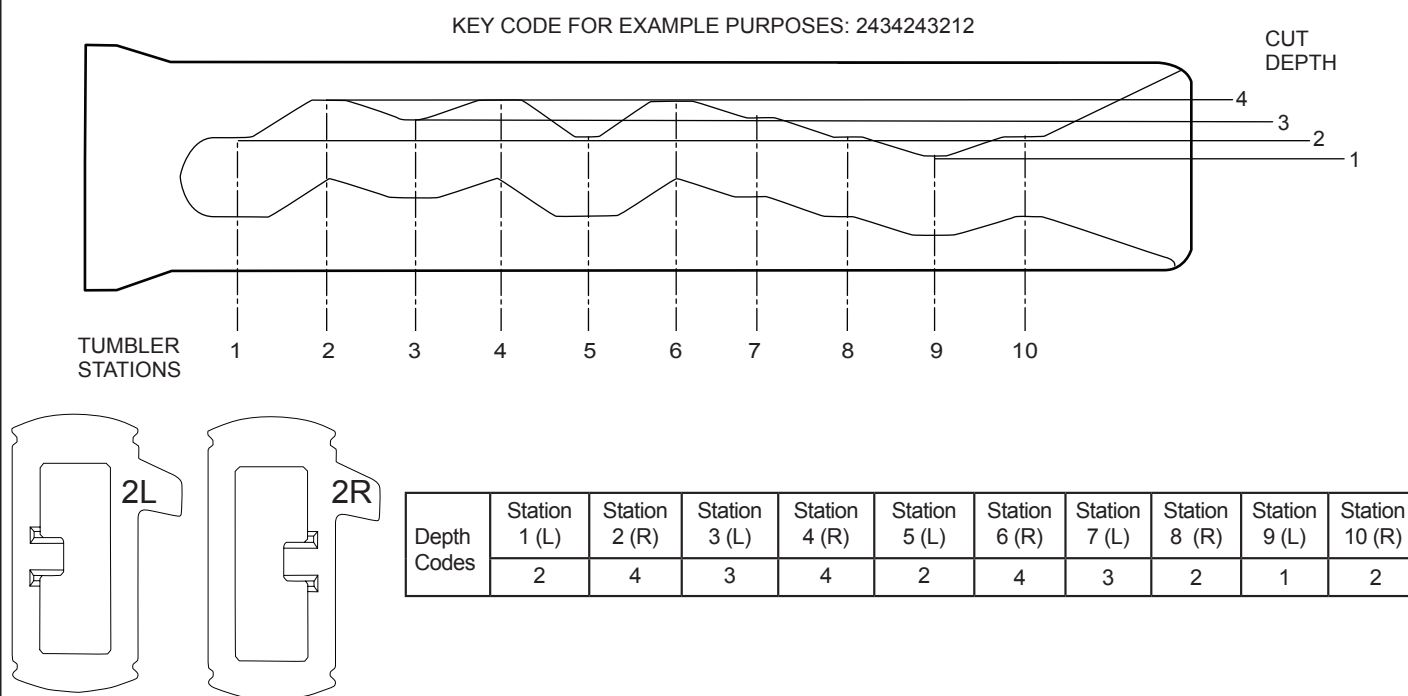

FIGURE 1
- Using the customer's key, measure the key cut depth at each key station (refer to Figure 1) and write down the corresponding key cut depths in terms of the DEPTH CODE, not the actual measurements of the depths, in this chart.
- Select the required tumblers (B1-B8) according to the key cut depths. For example, if the key cut depths codes are 2434243212, use B6 for station 1, B4 for station 2, B7 for station 3, B4 for station 4, B6 for station 5, B4 for station 6, B7 for station 7, etc. (refer to Figure 1). Note that there are Right (B1-B4) and Left (B5-B8) side Tumblers.